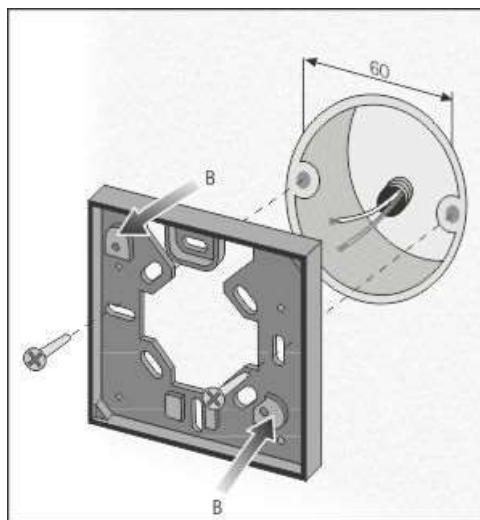

FIG. 7
A) In case the thermostat shall be installed either in a round built-in box (having distance between centres equal to 60mm), or on an uneven wall surface or in other particular locations, it is recommended to use a sub-base fitting (see paragraph "Optional Accessories"). Fix the fitting to the wall through two holes other than the ones marked as B-B, which are exclusively provided for the thermostat installation. (fig.7)